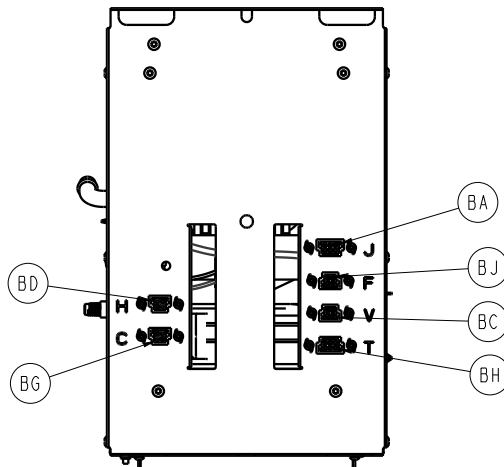

Figure 24 – Heater connector
18. Using wire cutters, remove the heater connector (BD) from the top bracket (H) (Figure 24).